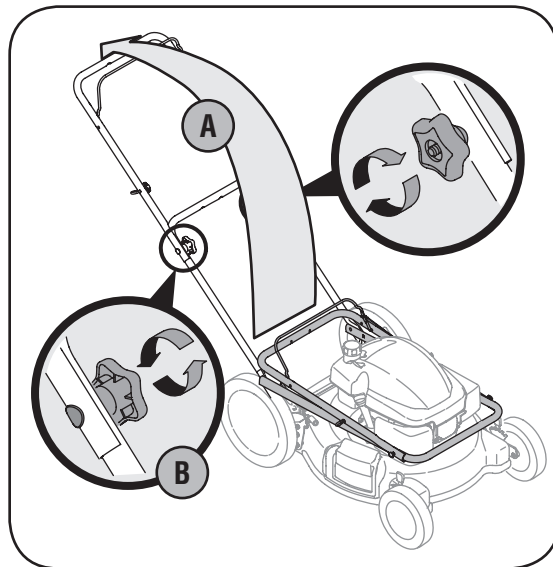

Figure 3-2
- Pull up and back on the upper handle to raise the handle from position A into the operating position. See Figure 3-2.